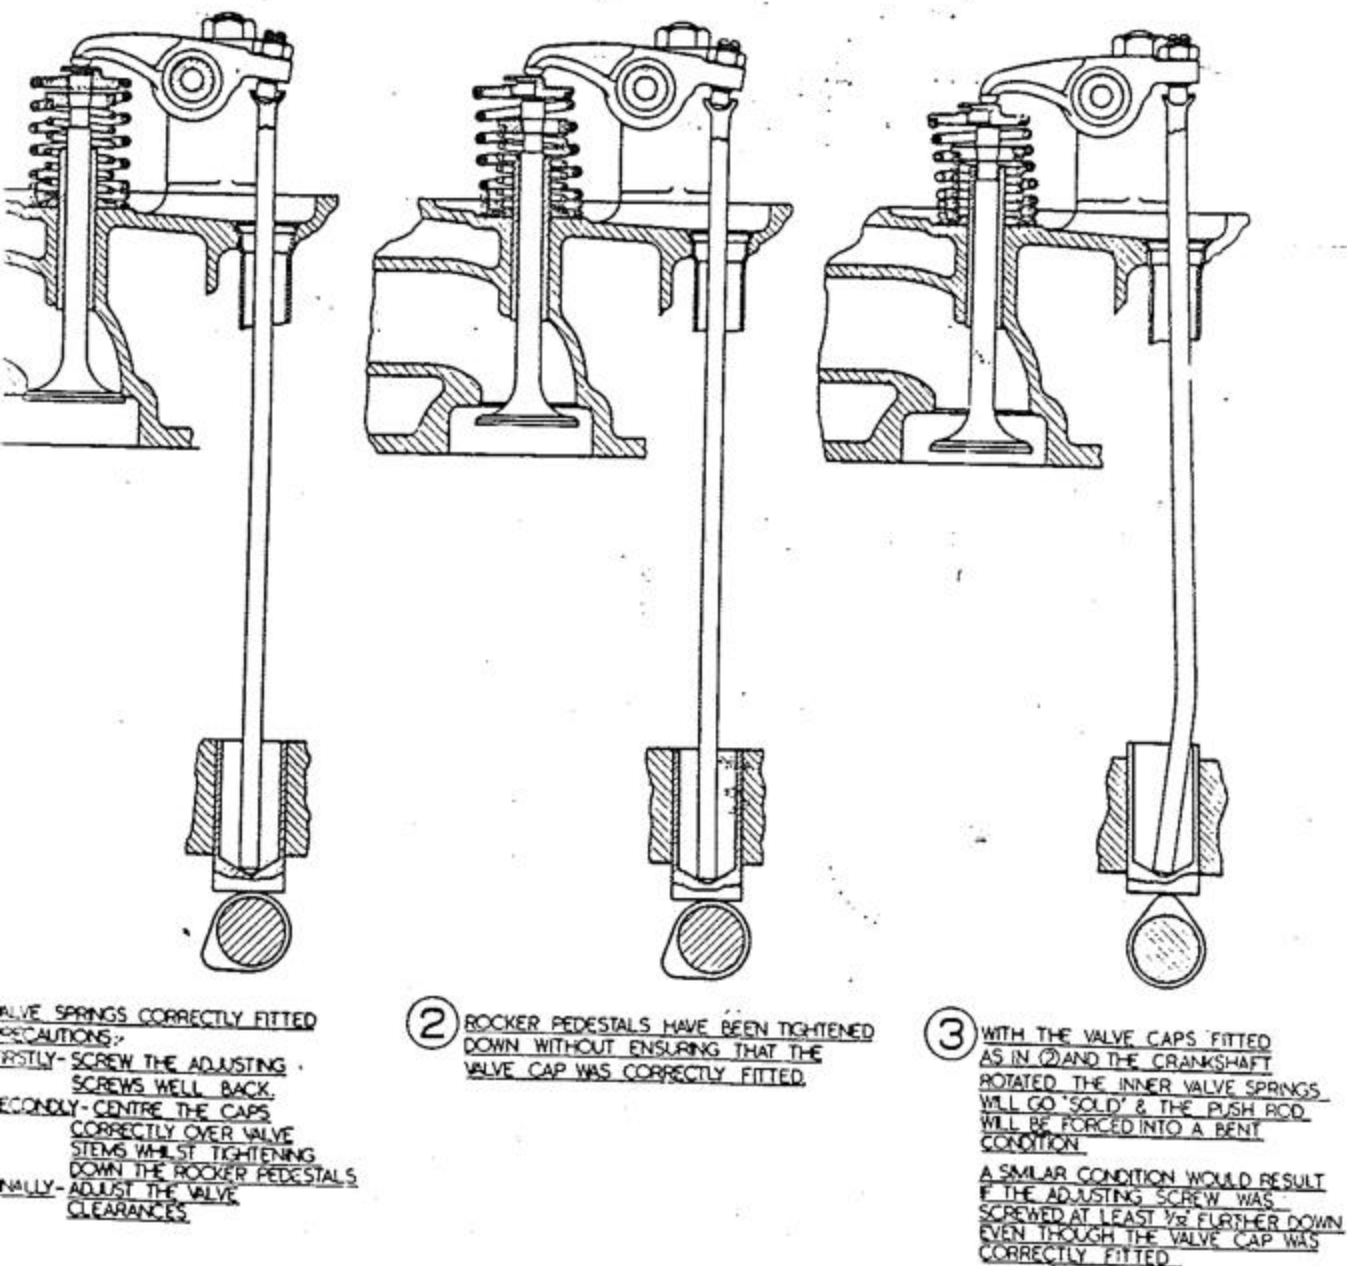

Fig. 22. Precautions required when fitting valve rocker shaft assembly
4. When fitting the combustion head, slacken off the valve rocker adjustment screws and ensure the proper location of the outer valve spring caps on their respective valve stems, otherwise the push rods may become bent as shown in Fig. 22. When tightening up cylinder head nuts, regard the sequence for tightening given in Fig. 24.
1. Remove the rocker shaft and withdraw outer valve springs, but not spring caps on Nos. 1 and 4 cylinders. Refit rocker shaft, taking steps to ensure that the outer spring caps register properly with the valve stem as the pedestal brackets are tightened down and that damage is not caused by misplacement of these caps as indicated in Fig. 22.
Before re-installing the rocker shaft, slacken the lock nuts and screw back the adjusting screws thus facilitating assembly. When tightening down the rocker pedestals, ensure that the valve caps are locating properly on the valve stems, thus avoiding damage shown in Fig. 22. Provide for initial lubrication of valve cap ground faces with an oil can.